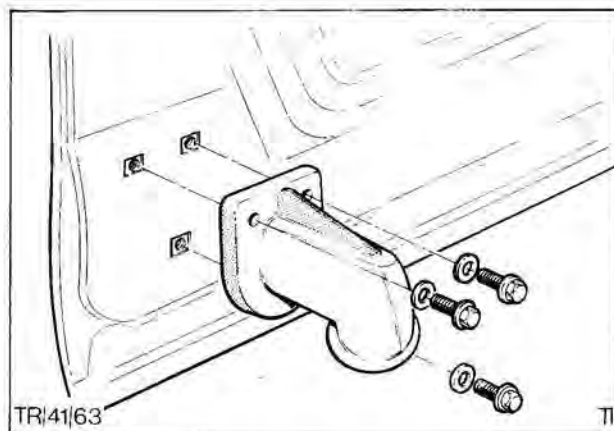

Fig. 45. Guide assembly sliding side door lower
6. Slacken screws on lower guide arm, Fig. 45.